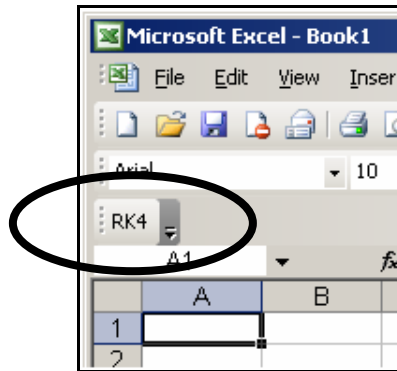

Figure 1. The RK4 Command Bar
5. Click the [**OK**] button. (This should activate the **RK4** add-in and a command bar should appear on the upper left corner as shown in Figure 1.)
3. Click on [**OK**] button. If **RK4** is activated, the command bar shown in Figure 1 should appear.
1. Click on RK4 button in the command bar (see Figure 1.). A user interface window as shown in Figure 2 should pop out.